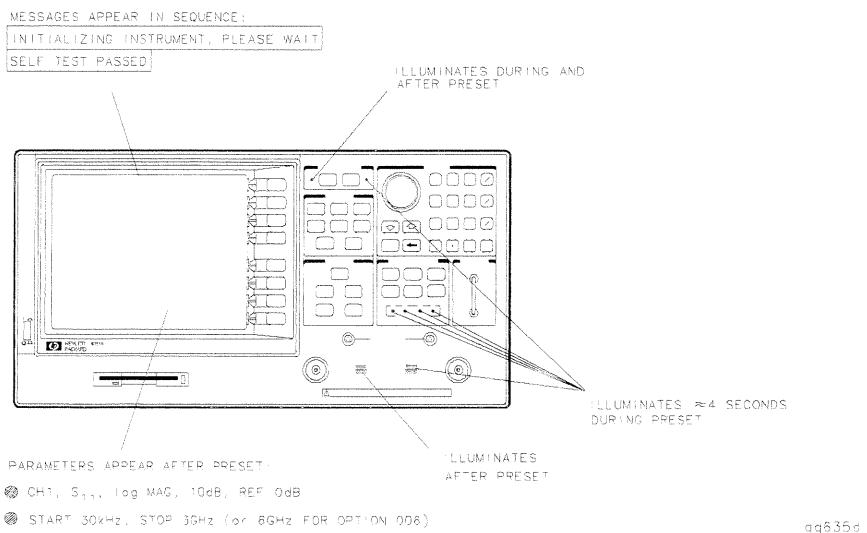

Figure 6-4. Preset Sequence
2. Observe that all front panel LEDs turn on and, within five seconds after releasing **[PRESET]**, all but the CH1 LED turns off. Refer to Figure 6-4.